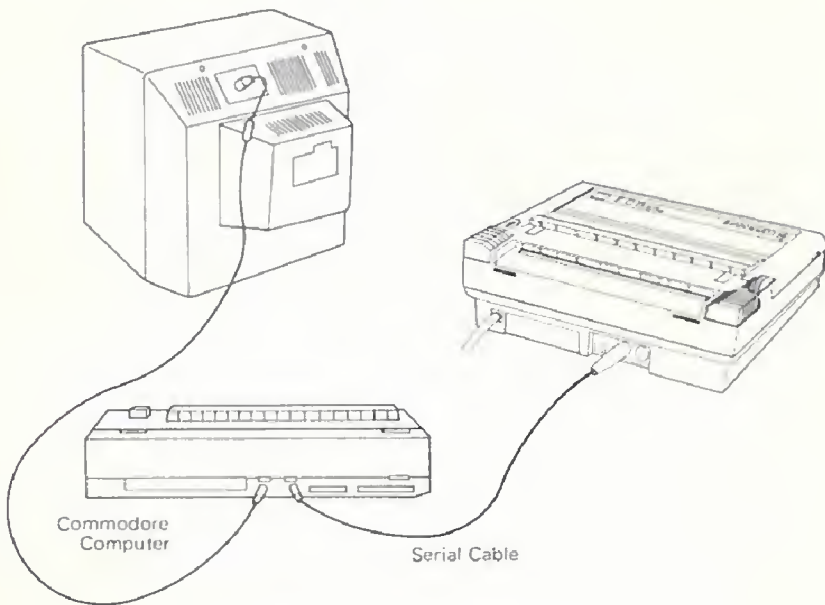

Figure 12. Printer to Computer Hookup
## E. Connecting The Printer To Your Computer (See Figure 12, 13)
3. Connect the other end of the cable to your computer in the Serial Port Connector located in the back of your computer (See Figure 12) or your Disk Drive (See Figure 13). Make sure that you are "keying" the pins properly into the connector with 6 holes.